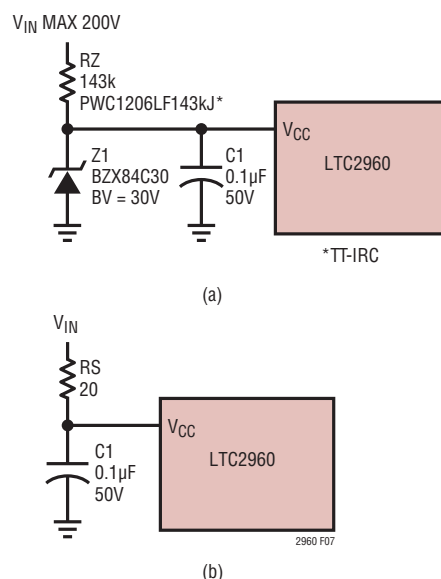

Figure 7. Operation with High Voltage Transients and Hot Swapping
The circuit in Figure 7(a) allows the LTC2960 to withstand high voltage transients. The magnitude of the voltage transients that can be absorbed is set by the voltage rating of RZ. A TT-IRC pulse-withstanding surface mount 1206 resistor with a nominal voltage rating of 200V is used. The external 30V Zener diode (Z1) and the 143kΩ current limiting resistor (RZ) protect the V_{IN} supply pin of the LTC2960. Note that there is a speed penalty which is the time constant determined by RZ and C1, 14.3ms in this example. If V_{IN} is below 30V, there is a voltage drop across RZ that is dependent on the quiescent current of the LTC2960 which is nominally less than 150mV but can be as high as 290mV if $\overline{\text{MR}}$ is pulled low. The maximum voltage drop is determined by the maximum specified I_{CC} and $\overline{\text{MR}}$ pull-up currents. For conditions where the Zener conducts current, it can be biased in the microamp range owing to the low quiescent current of the LTC2960. For a supply voltage of 150V, the Zener is biased <1mA. When input pins are used to sense V_{IN}, the input pins ADJ/IN⁺/IN⁻ absolute maximum rating of 3.5V must not be exceeded. V_{IN} can be a maximum of 8.75x the lowest programmed threshold to satisfy this condition. For a maximum V_{IN} of 150V, the lowest programmable threshold is >17V.
One effective means to eliminate ringing is to include a 10–100 Ω resistance in series with the supply input before the V_{CC} capacitor shown in Figure 7(b). This provides damping for the resonant circuit but imposes a time constant to V_{CC} . In Figure 7(b), the time constant of R_S and C_1 is 2 μ s.